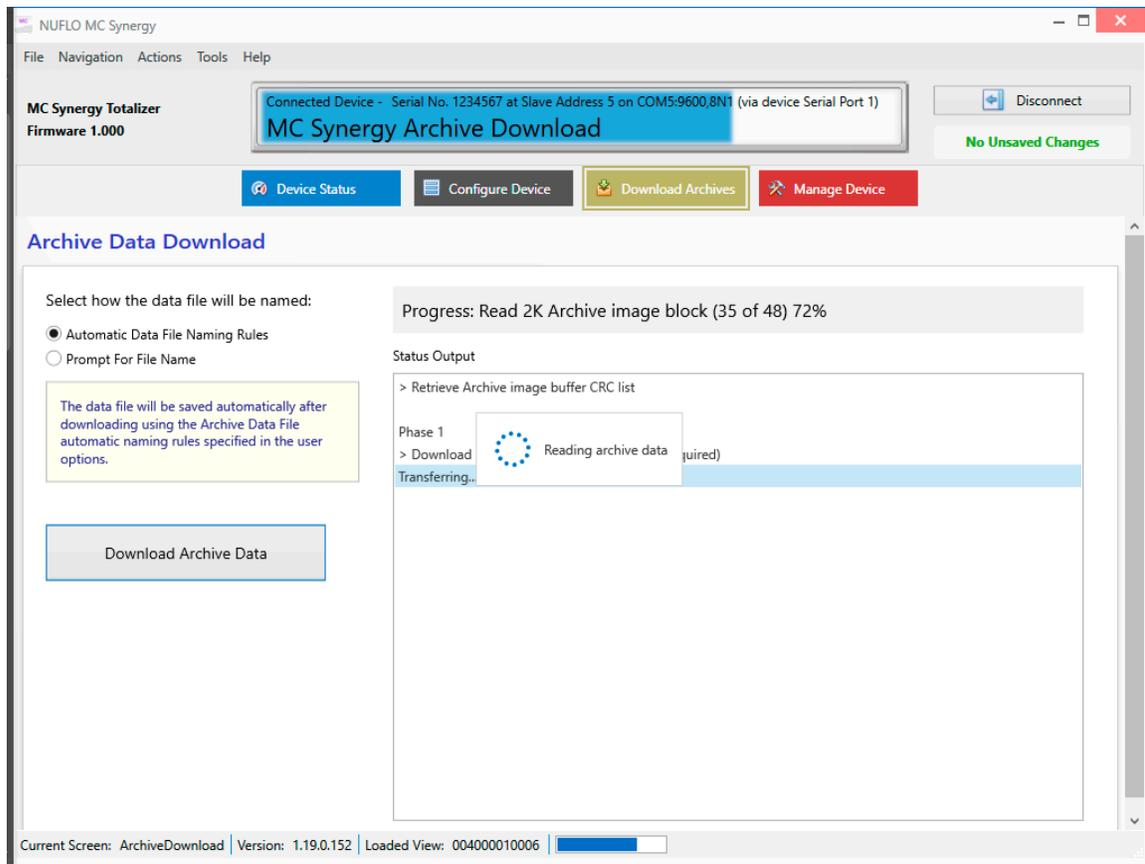

Figure 9.3—Download progress display
1. Click Download Archive Data. The download will take several seconds to complete. A progress bar will display both in the navigation window at the top of the screen and in the footer of the screen, and a text notification will appear on screen to provide a real time indication of the percentage of data read (Figure 9.3, page 83).